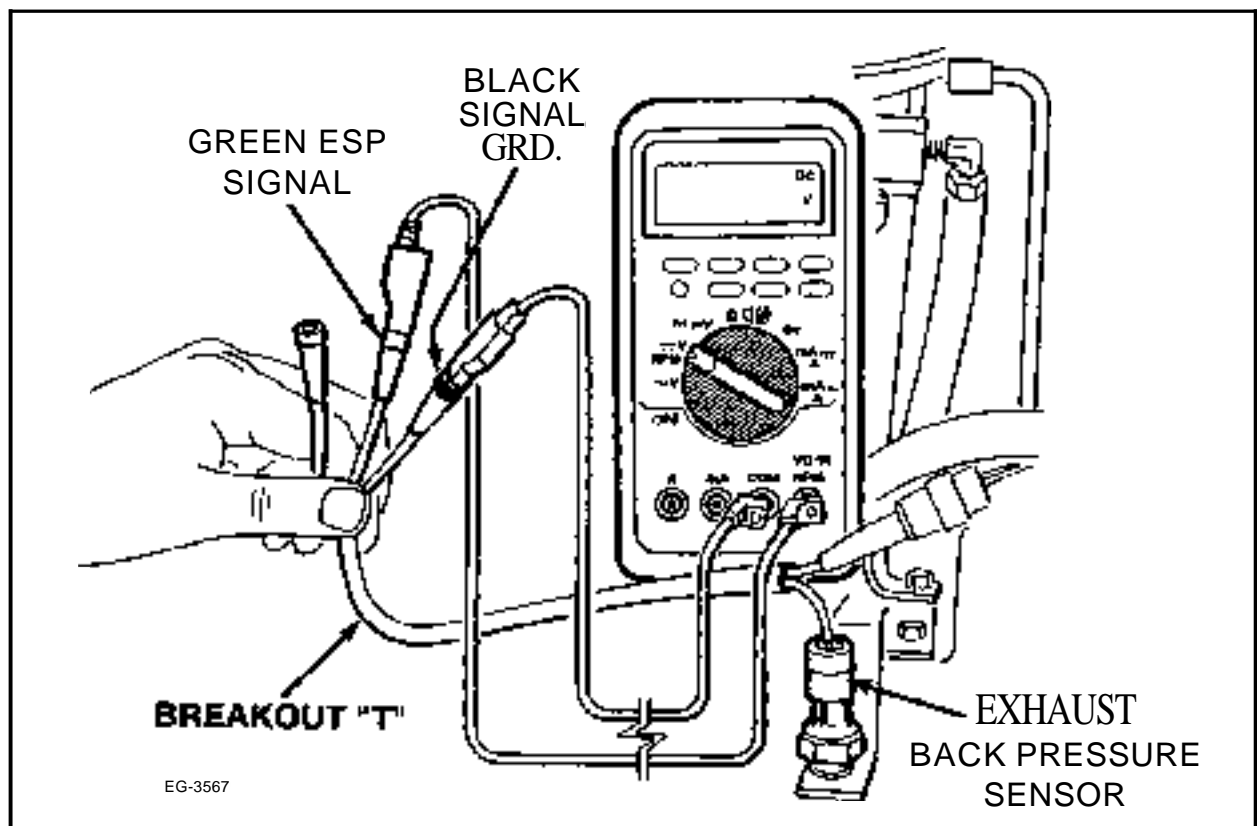

Figure 2.3-9. - Measuring Exhaust Back Pressure (Voltage)
1. If the suspected exhaust restriction is not visually evident, an exhaust back pressure measurement is necessary. Install the breakout box or "T" (Figure 2.3-9.) in line with the ESP sensor which will allow access to the back pressure voltage signal.